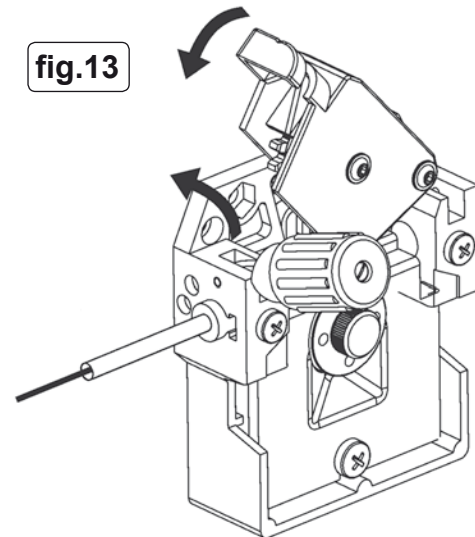

fig.13
4.3 Ensure that the wire is resting in the groove correctly then close the pressure roller housing and hinge the adjusting screw upwards to retain it in place. (See fig.13)